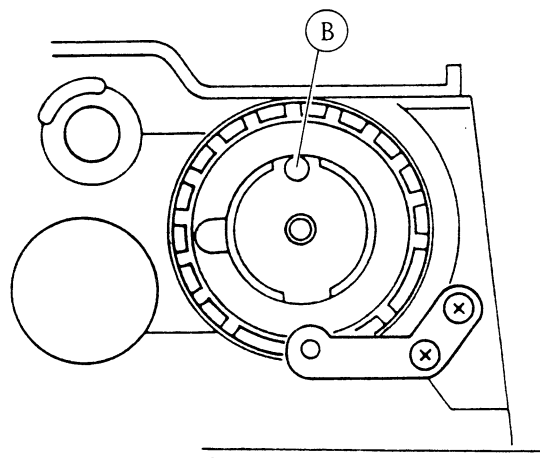

Fig. 3
1. Set the shutter dial of the top cover to "Auto". Then check the position of the (B) protrusion in backside of the top cover.
2. When the (B) is located as shown in Fig. 3, mesh the TV-coupling gear with the TV-gear as the U-shape notch of the TV-coupling gear faces right in front.